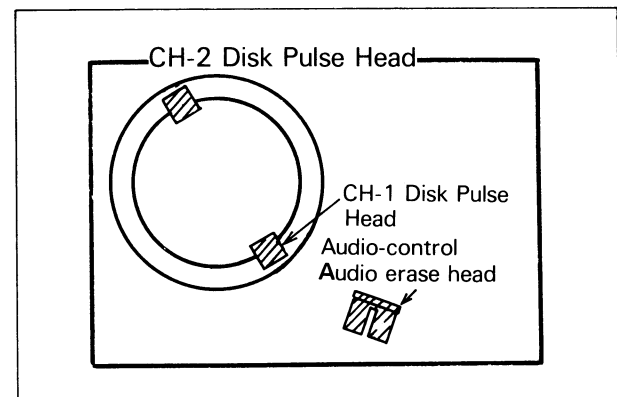

Fig. 5-11. Pick-up head position
2. Refer to Fig. 5-11. Adjust the CH-2 Disc Pulse head by loosening the screw holding the head bracket and moving the slotted bracket along the circumference of upper drum, in order to position the switching point 5H prior to the vertical blanking.